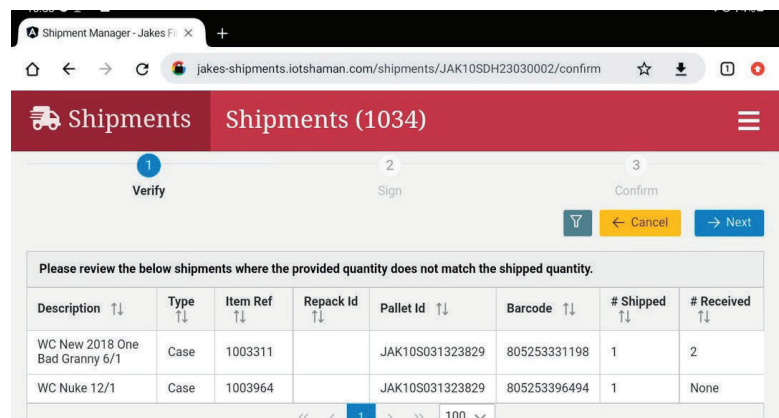

Figure 18
- b. Once you are certain the changes displayed here are correct, click NEXT (Figure 18).